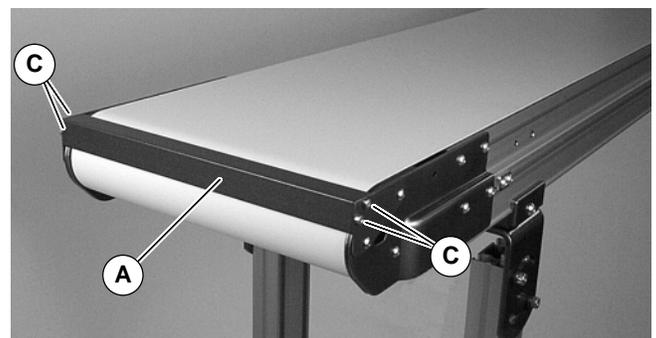

Figure 4
4. Install transfer plate (A of Figure 4) using screws (C). While maintaining clearance between transfer plate and conveyor belt, tighten screws (C) to 36 in-lb (4 Nm).